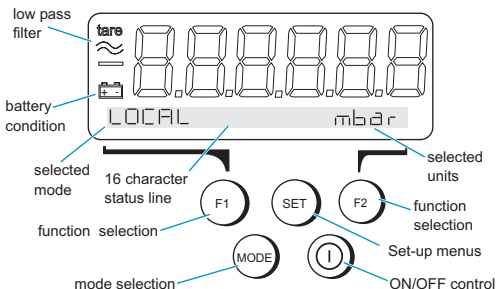

Figure 3-1 Instrument front panel
3.1 General (Figure 3-1)
3.2 Measurement Modes (Figure 3-1)